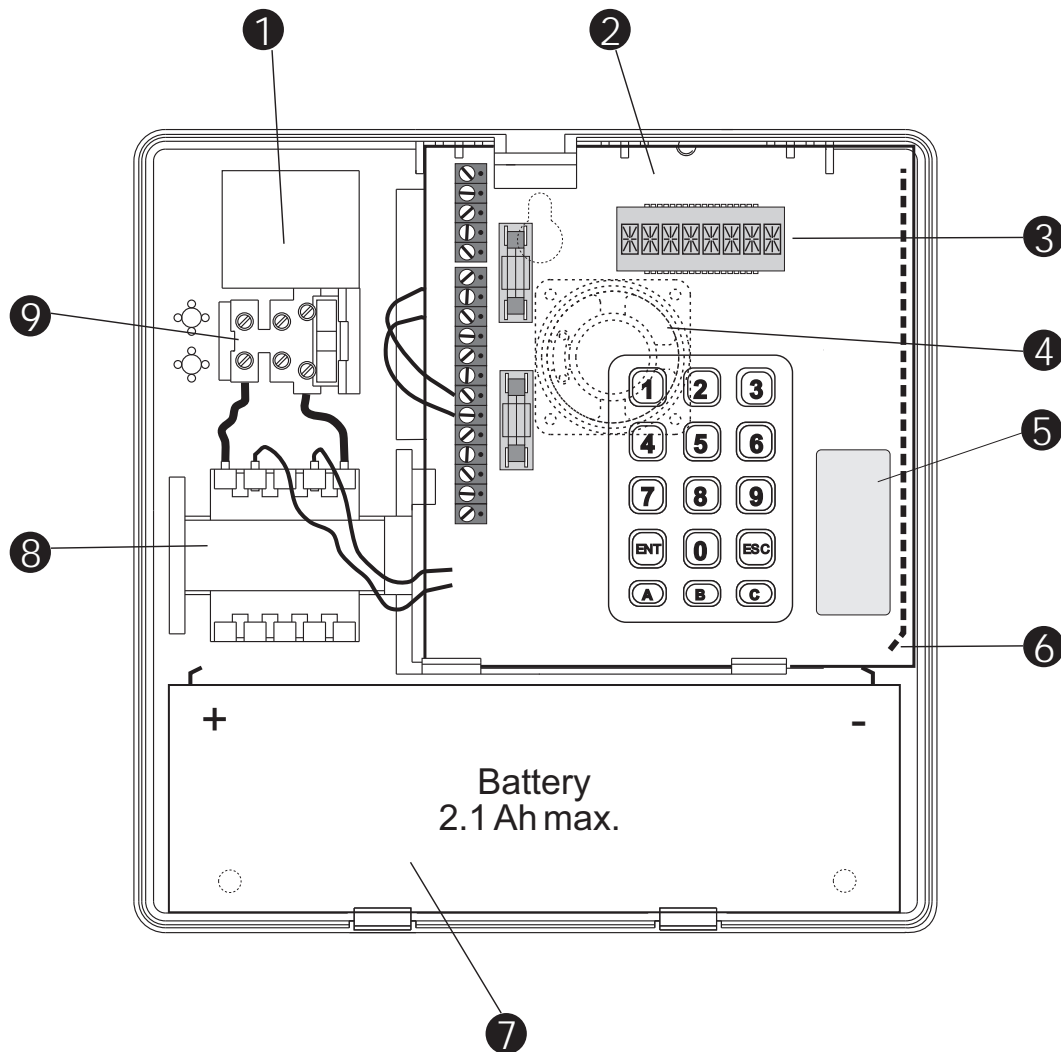

Figure 2. TS690R Control Panel Layout
7. Re-fit the PCB assembly by aligning the top of the PCB into the 2 supports in the top of the housing ensuring that the edges of the board sit between the 2 flanges and that aerial is positioned as shown in figure 2. Push the bottom of the PCB until it clicks in place.